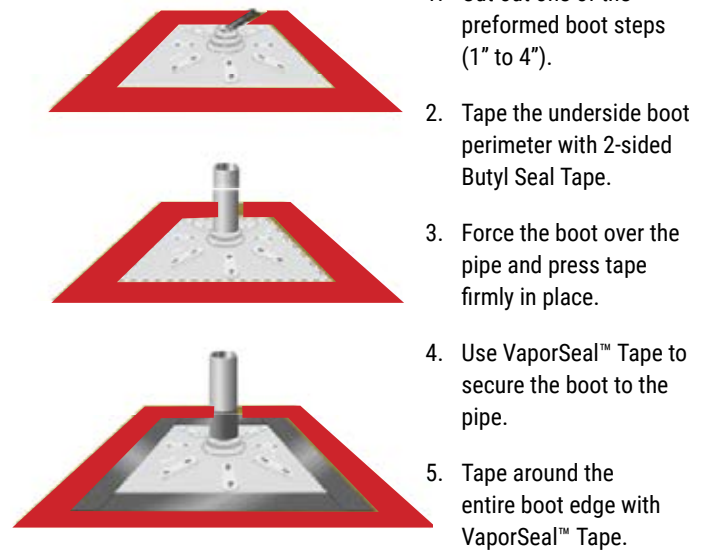
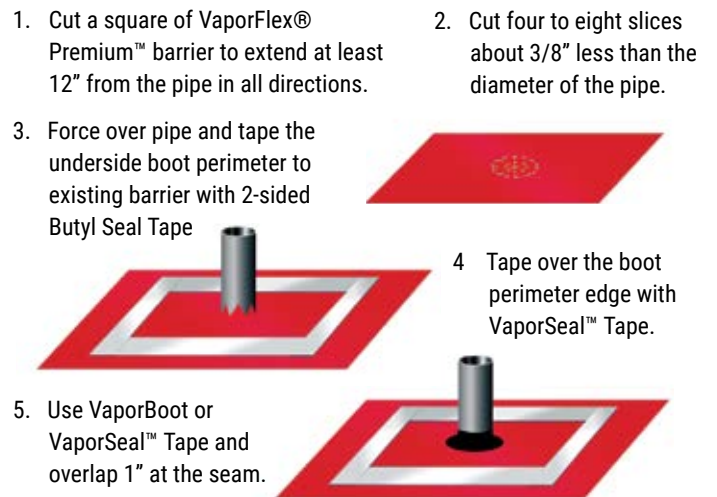

Figure 3: Method 1
Figure 4: Method 2
preformed pipe boots are formed in steps for 1", 2", 3", and 4" PVC pipe or IPS size and are sold in units of 12 per box (Fig. 3 & 5). Pipe boots may also be fabricated from excess VaporFlex® Premium membrane (Fig. 4 & 6) and sealed with VaporBoot Tape or VaporSeal™ Tape (sold separately).
1.4b. **Method 2:** To fabricate pipe boots from VaporFlex® Premium excess material (see Fig. 4 & 6 for A-F):
F) Complete the process by taping over the boot perimeter edge with VaporSeal™ Tape to create a monolithic membrane between the surface of the slab and gas/moisture sources below and at the slab perimeter. (Fig. 4 & 6)